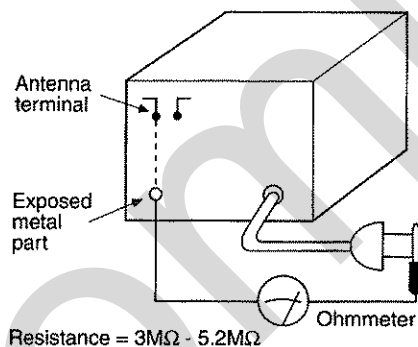
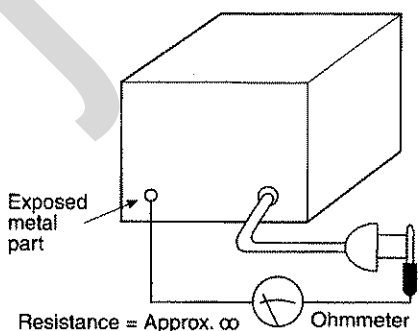

Fig. 1
Fig. 2
3. Measure the resistance value with ohmmeter between the jumper AC plug and each exposed metal cabinet part, such as screw heads, antenna, control shafts, handle brackets, etc. Equipment with antenna terminals should read between $3M\Omega$ and $5.2M\Omega$ to all exposed parts*. (Fig 1) Equipment without antenna terminals should read approximately infinity to all exposed parts. (Fig 2)